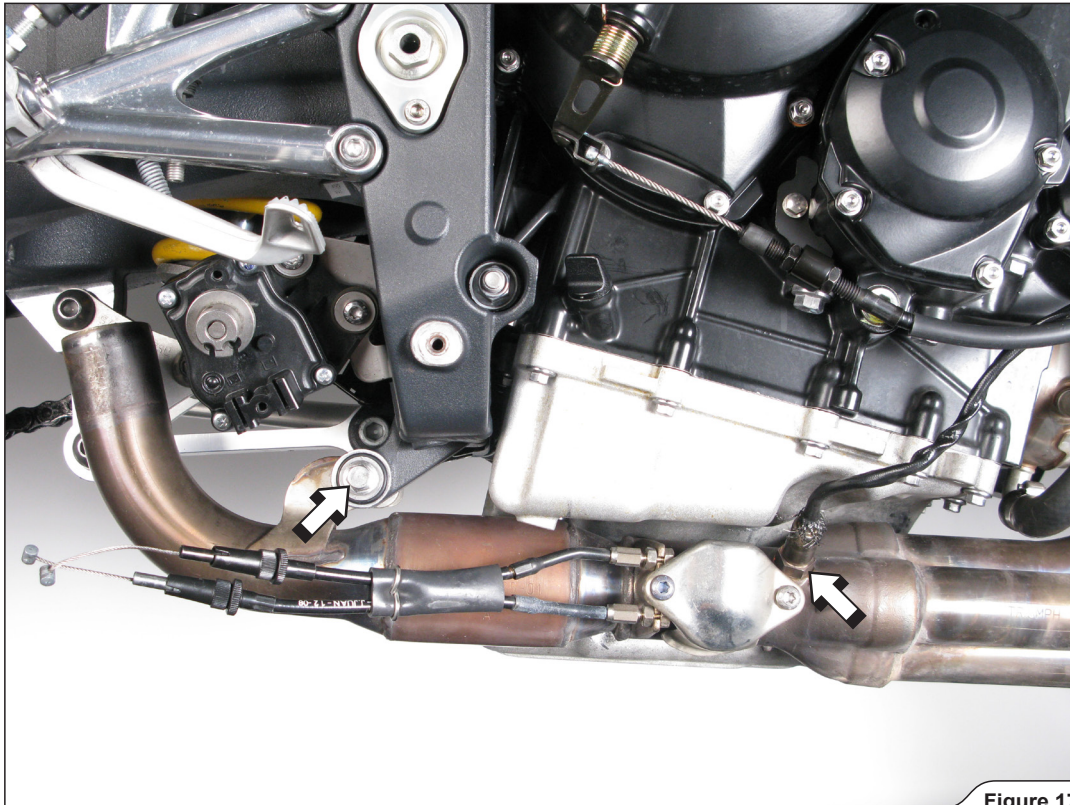

Figure 17
15. **For Racing exhaust system only:** unscrew the exhaust valve's servo motor cover, shorten the cable adjusters and remove the cables off the servo. Unscrew the lambda sensor and header bracket bolt (Figure 17).